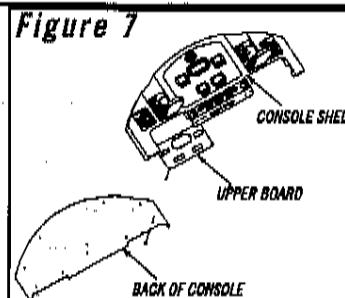

Figure 7
- 2) Remove screws connecting faceplate to console shell. (For 2001-2004 models Remove the screws from the back of the console pannel. See figure 7)